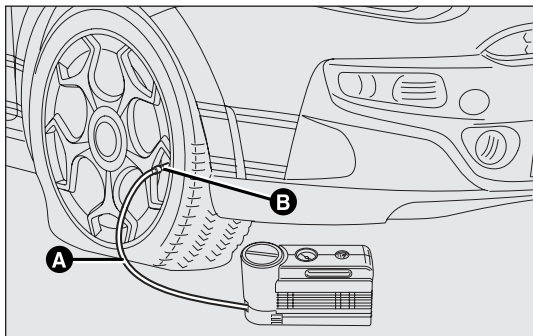

fig. 129
- Apply the handbrake. Unscrew the tyre valve cap, take out the transparent flexible filler tube A-fig. 129 and tighten the ring nut B on the tyre valve;